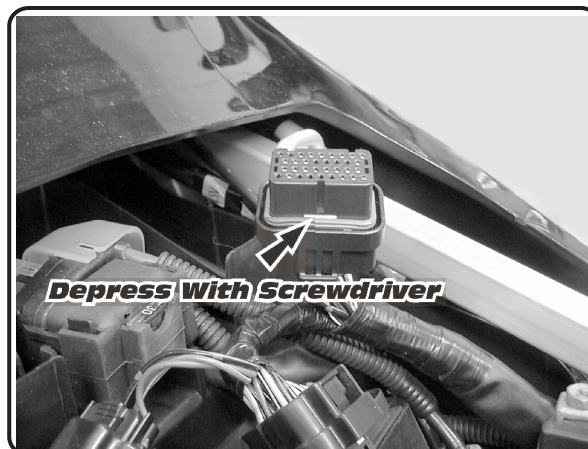

Fig. 5
- 12 Depress rectangular white plastic locking plate on the 34 pin ECU connector to unlock connector pins. (See Fig. 5)